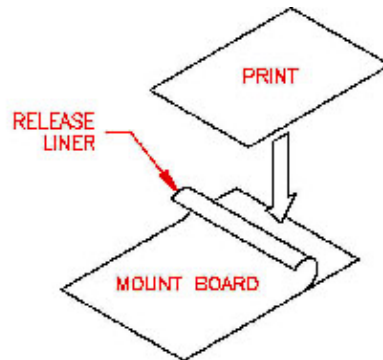

FIGURE 9
2. Align the top edge of your print with the top edge of the mount board (see figure 9).